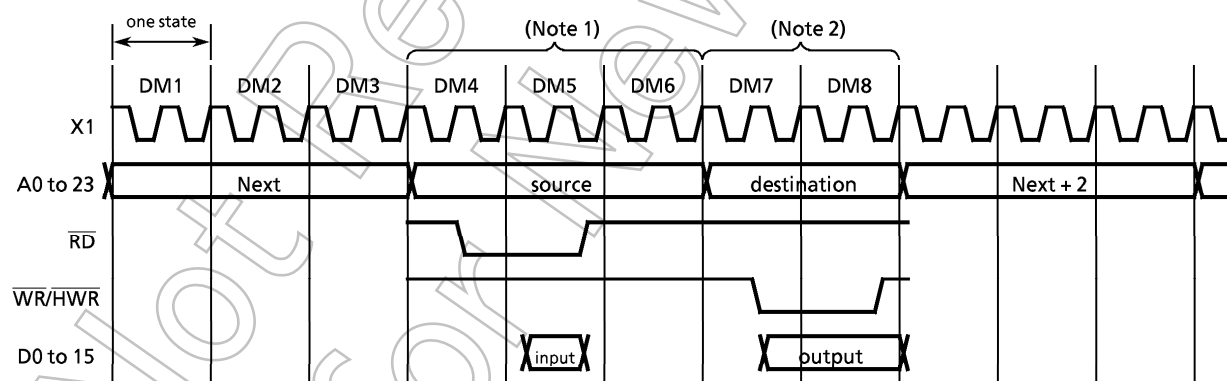

Figure 3.3.2 (1) Micro DMA Cycle Diagram
Figure 3.3.2 (1) shows the micro DMA cycle for 1-word transfer in transfer destination address INC mode (the same apart from counter mode). (The conditions for this cycle are based on a 16-bit bus, 0 waits, and transfer source / transfer destination addresses both even-numbered values.).